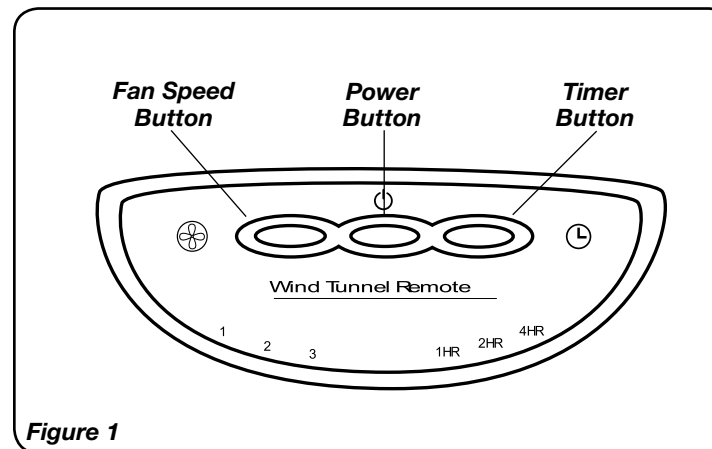
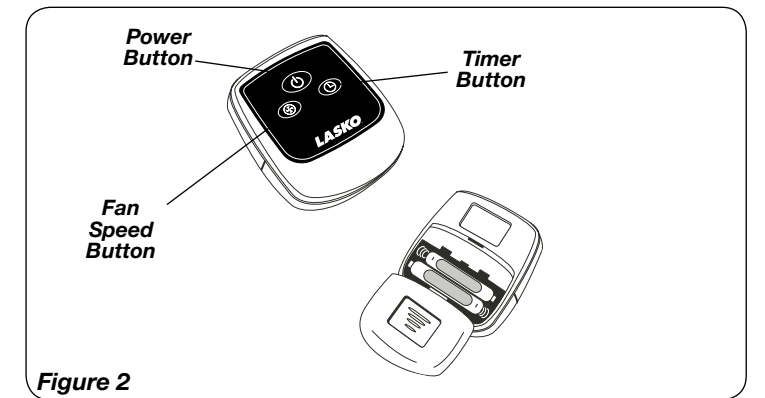

Figure 1
Figure 2
This Fan may be operated by the manual controls located on top of the unit (as shown in *Figure 1*) or by the Remote Control (shown in *Figure 2*).
7. **FAN SPEED:** You may now adjust the fan speed to the desired level, 3 (High), 2 (Medium), or 1 (Low) by pressing the **Fan Speed Button** (⊕) on the Fan. (*Figure 1*)
REMOTE CONTROL (*Figure 2*)
1. Install batteries (not supplied) as shown in *Figure 2*. The battery is type "AAA".